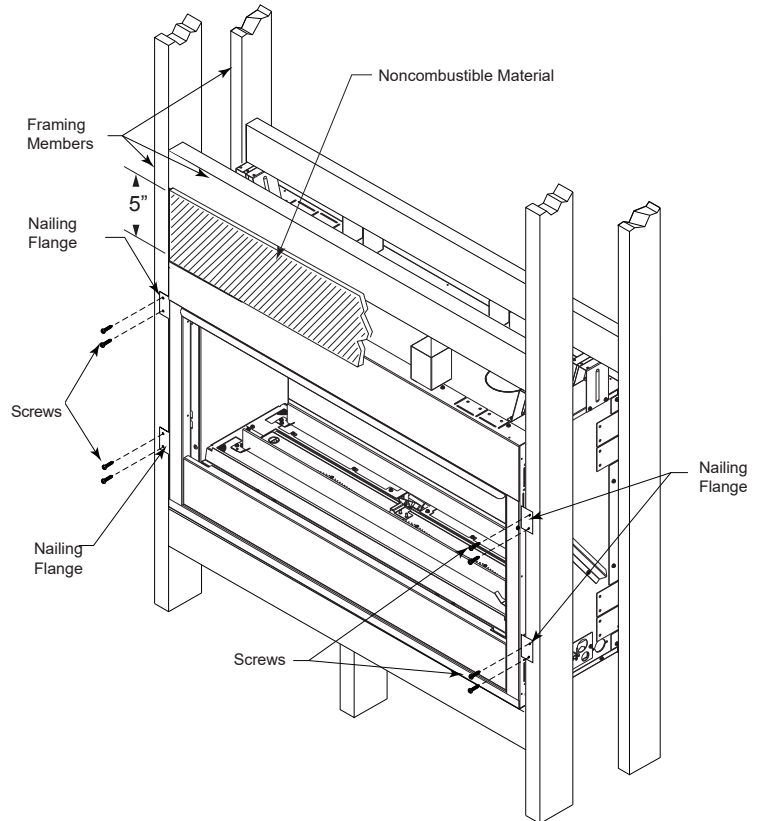

Figure 8. Secure Fireplace to Framing Studs
The fireplace must be secured to the framing studs as shown in Figure 8. Use eight (8) screws to attach fireplace to framing. The side nailing flanges are $\frac{1}{2}$ " or $\frac{5}{8}$ " to accommodate different wall thickness.